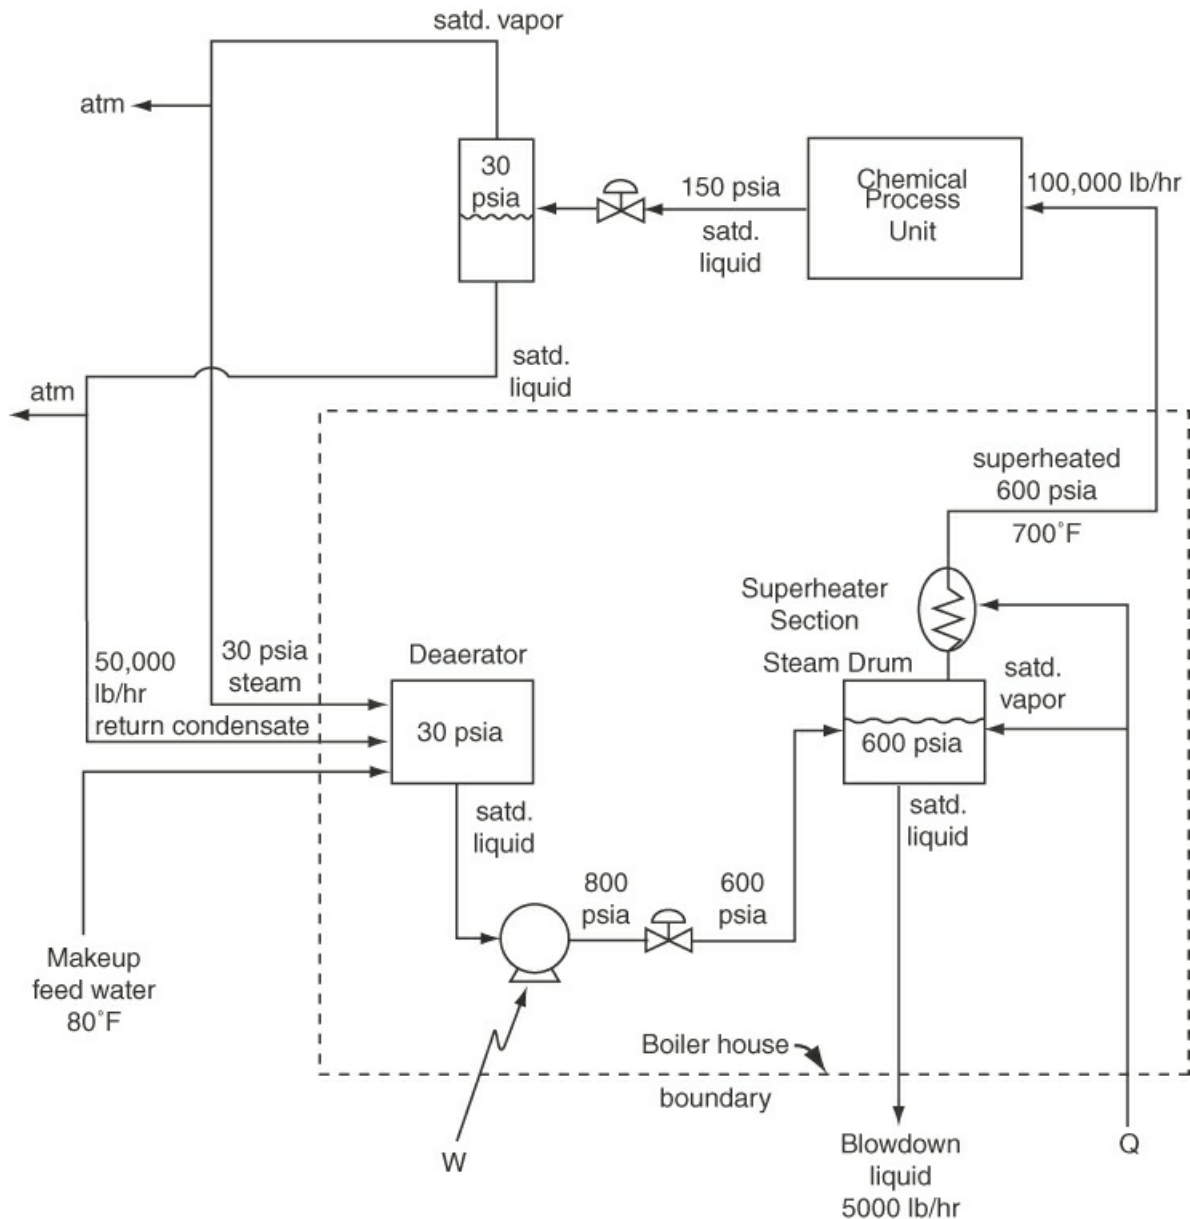

Figure P8.4.30
*****8.4.30** A boiler house flowsheet for a chemical process plant is shown in Figure P8.4.30. The production rate of 600 psia superheated steam is 100,000 lb/hr. The return condensate flow rate is 50,000 lb/hr. Calculate: